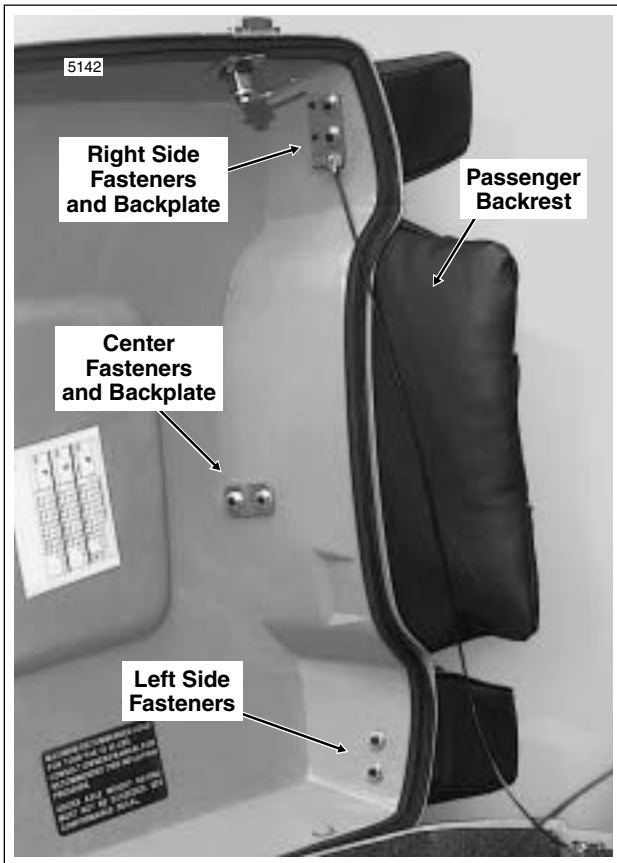

Figure 2-147. Tour-Pak Cover (Underside)
2. Remove two locknuts and backplate to detach center backrest from Tour-Pak cover. See Figure 2-147.